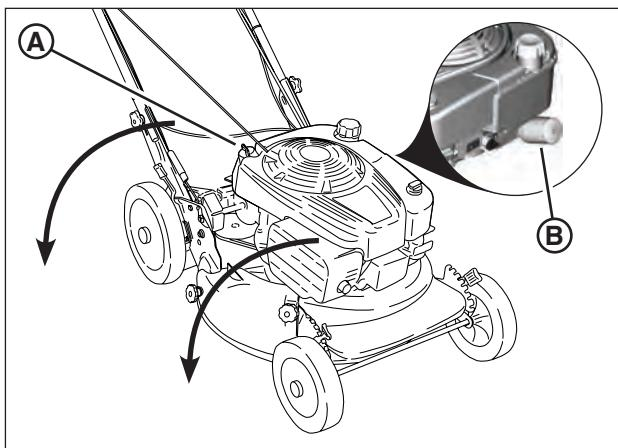

Figure 14: Draining the engine oil
2. Remove the dipstick (**A**, Figure 14), then turn the mower on its side. Allow the oil to drain from the oil fill tube into an appropriate container. Dispose of used oil properly.
2. Remove the oil filter (**B**, Figure 14) and dispose of properly.